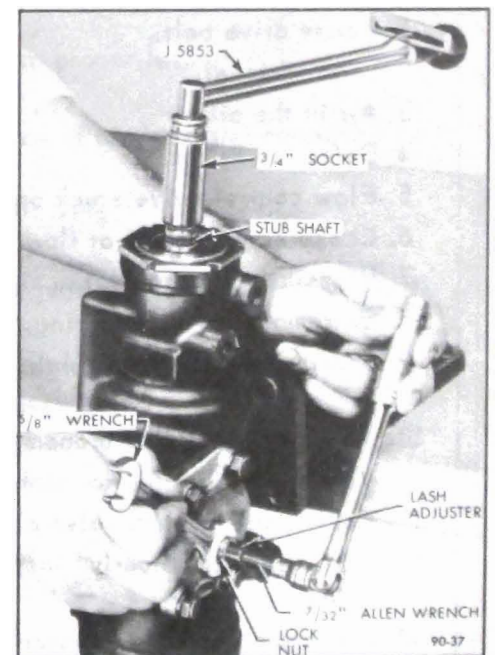

Figure 90-87 Pitman Shaft Over-Center Adjustment
1. With gear on center, loosen pitman shaft adjuster lock nut and tighten pitman shaft lash adjuster screw. Retighten lock nut (holding lash adjuster screw to keep it from turning) and measure gear over center torque at stub shaft. When checking over center torque, torque wrench should be rotated through a 180 degree arc either side of center and readings taken going over center. Continue adjusting lash adjuster screw and checking over center torque (with lock nut tightened) until correct over center torque is obtained. See Figure 90-87. Limits for new and old gears are different, as follows: